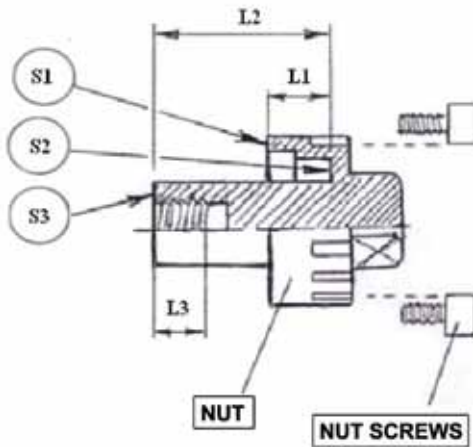

Fig.8
7) **INSTRUCTIONS FOR THE PROPER FITTING OF THE LOCKING NUT OF THE PROPELLER FIG.8**
Unlike the standard nut, this kind of nut, when it's locked on the motor shaft, must lean **ONLY** to surfaces S1 and S2 and is secured by 4 devices: 2 threaded pins, and a central screw with a dowel. When you mount the propeller on the motor shaft the same nut checking is necessary as previously described for fig. 8.